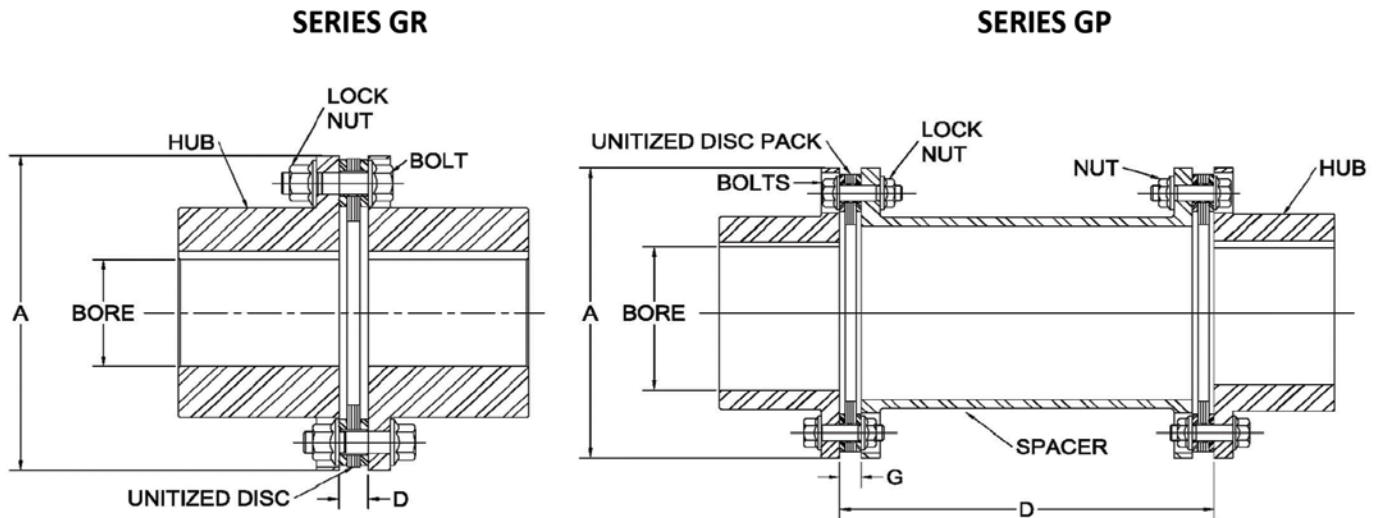
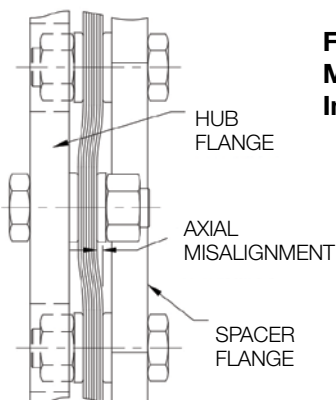

Fig. 1: Coupling Nomenclature
Fig. 2: Excessive Axial Misalignment at Installation
7. The distance 'D' between shaft ends and/or flange faces, see Fig 1, should match the target dimension within +/- 25% of the coupling's axial capacity as given in Table 1. Generally speaking the axial error at installation should not be visible to the naked eye - see Fig. 2. Reference the coupling drawing for configurations not similar to Fig 1.
9. Install disc packs, bolts, and nuts at each end of the coupling. See Fig 1 for proper bolt and washer orientation. Coat all bolt threads and nut faces with anti-seize thread compound and tighten all to a light snug fit only. Read the following sections before tightening bolts.
11. The average gap dimension 'G' ('D' for GR Series) as shown in Fig 1, at each disc pack, should be within the value given in Table 1 +/-12.5% of the coupling's axial capacity.